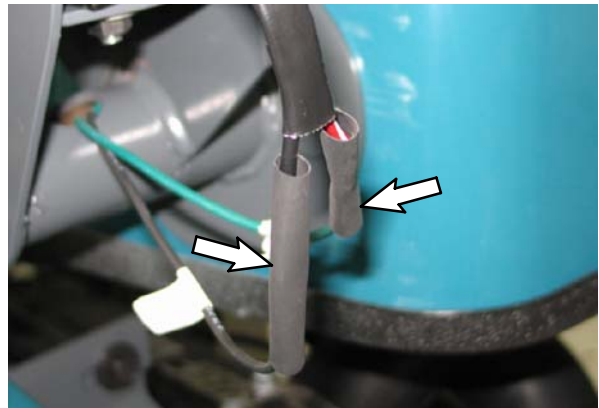

FIG. 22
32. Position the 2" pieces of heat shrink (27) over the backup alarm (8) / backup harness (1) connections and heat the heat shrink over the connections. Refer to Fig. 22.